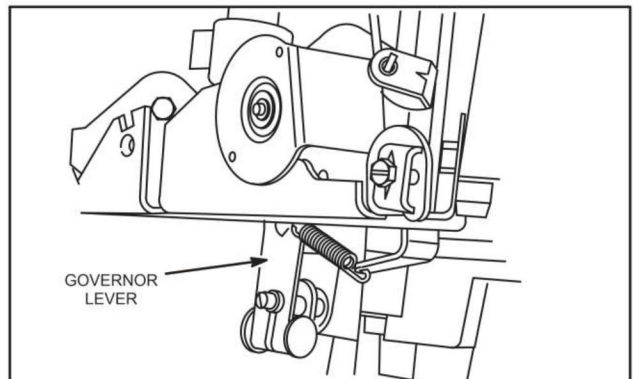

Fig. 17 – Install Governor Lever
4. Reassemble governor lever to governor shaft, Fig. 17.